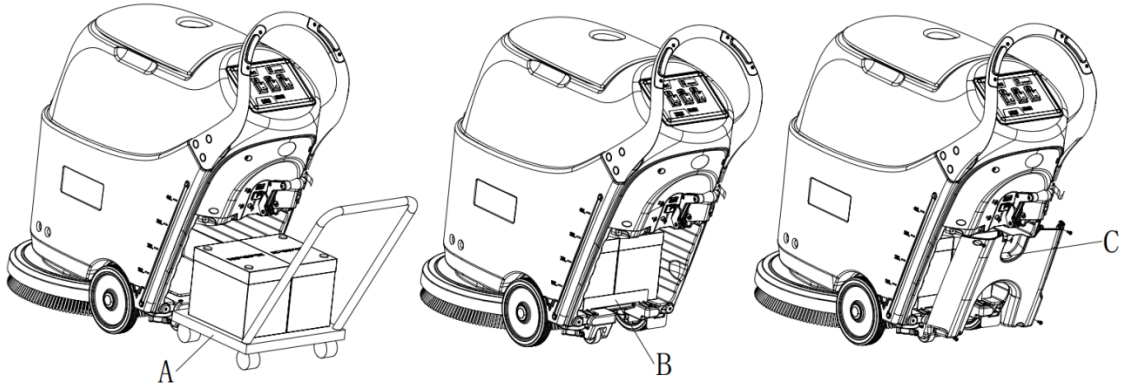

Figure 7
14. Use specialized tool (A, Figure 7) for batteries assembly.